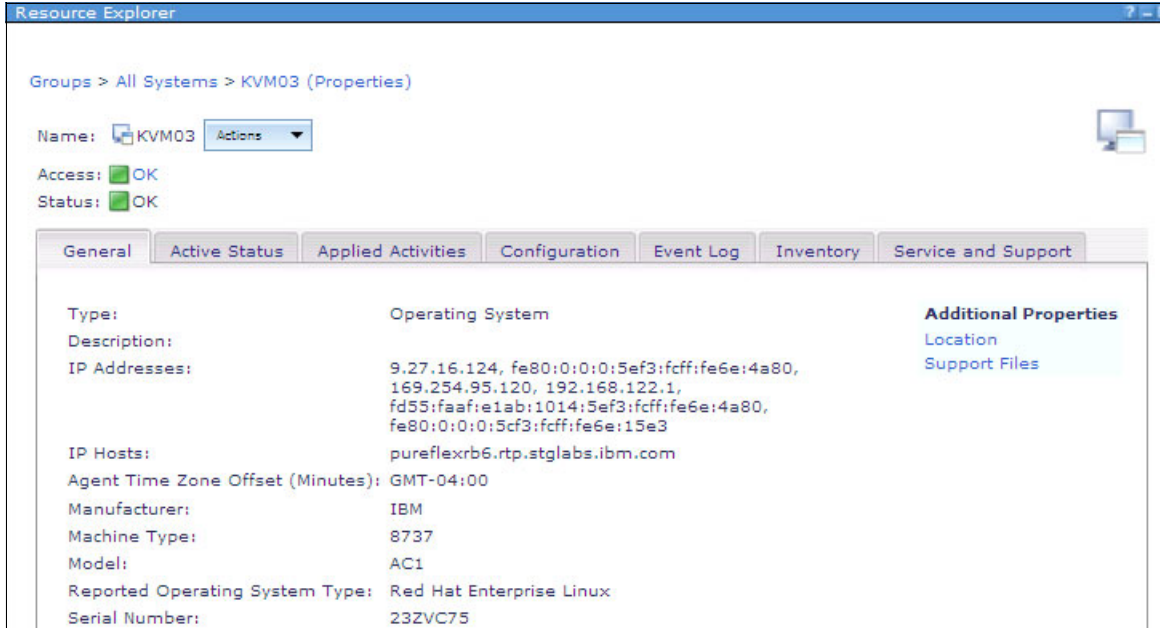

Figure 9-31 KVM image repository: Operating system
1. Start the wizard from the VMControl Summary window or from the IBM Flex System Manager Release Management task. You can also start it from Resource Explorer by selecting your system as shown in Figure 9-31.